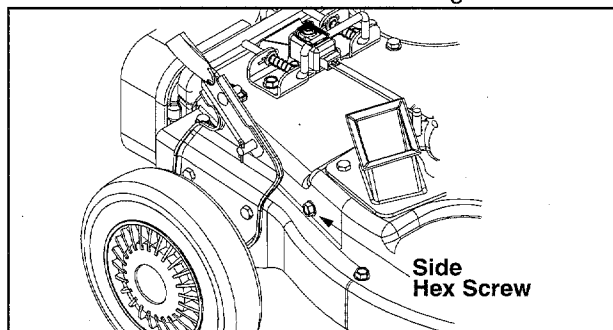

Figure 13
- **Wheels-** Place a few drops of SAE 30 oil on each shoulder screw once a season. See Figure 13.
3. Remove hex screw on right side of unit that attaches to the flail screen. See Figure 13.